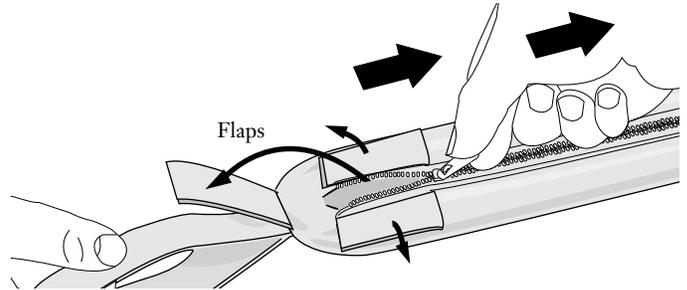

Figure 6
5.3 To remove the pulling sleeve (Figure 6):